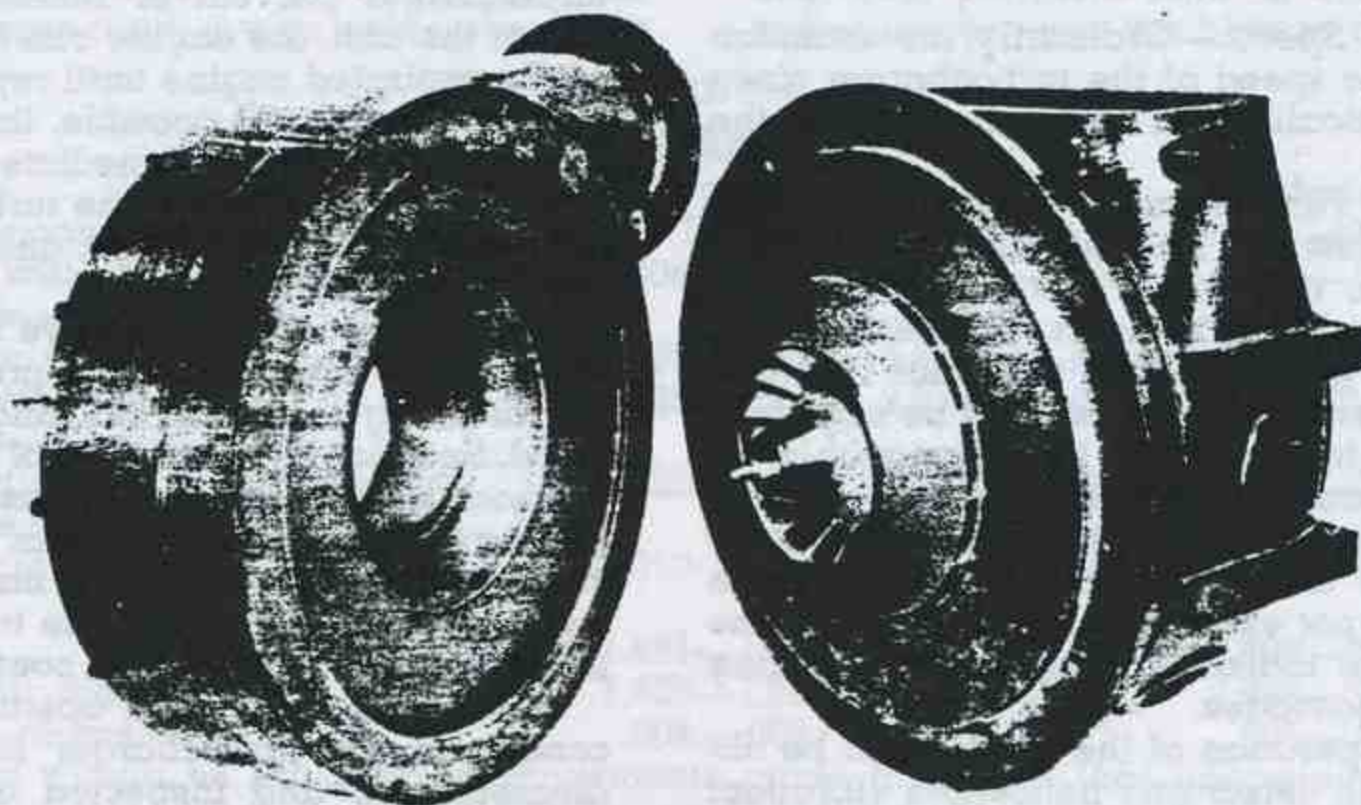

Fig. 5—Partially Dismantled View Showing Blower End Sub-Assembly with Vaneless Diffuser and Turbine and Intermediate Casing Assembled with Rotor.
2. Remove the intermediate casing to blower casing cap screws (28) on the L-20 and nuts (29) on the L-10, L-40 and L-60. Using these cap screws or blower inlet cap screws (38) as jacking screws in the threaded holes provided, break the joint. With the aid of the cast lug on the blower inlet and a sling, remove the blower casing assembly. (See Fig. 5.) This assembly must be pulled out along the rotational axis to avoid damaging the impeller shroud labyrinth seal rings.